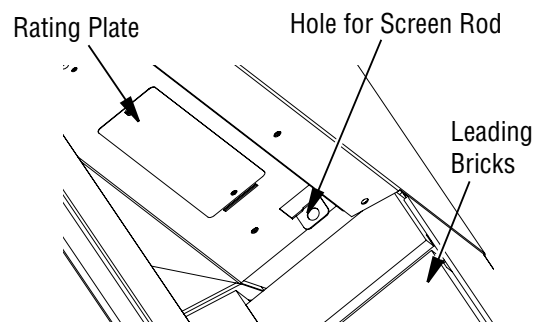

Figure 33 - Installing Fireplace Screen
2. Insert the round end screen rod into hole on the left and right side of smoke shelf (Figure 33).